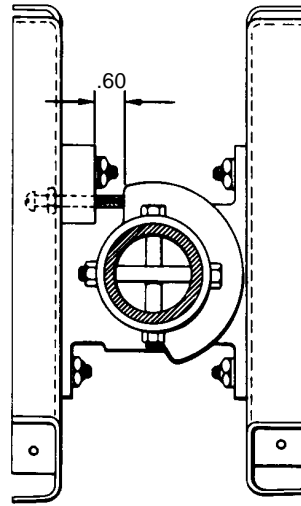
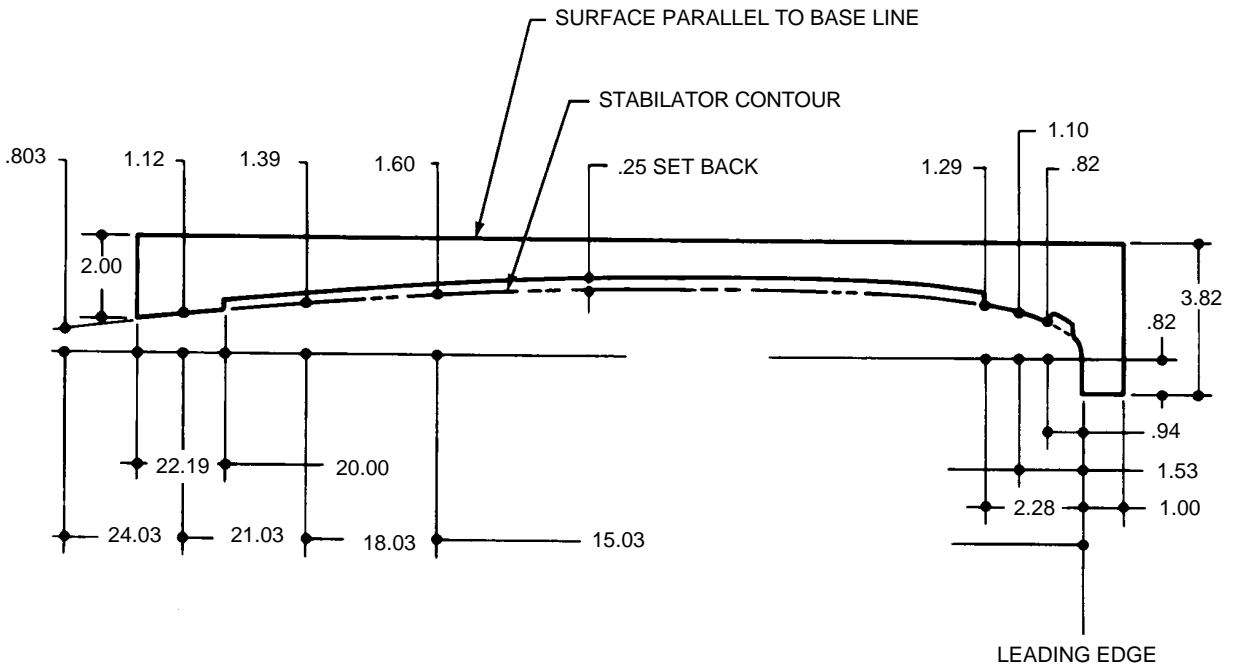

Figure 5-16. Flap Stop Adjustment
Figure 5-19 Fabricated Stabilator Rigging Tool
- f. To check up neutral position of the flaps, place a flap rigging tool as shown in Figure 5-16 against the underside of the wing and flap as close as possible to the outboard end of the flap without contacting any rivets. The tool must be positioned parallel with the wing ribs with the aft end of the tool even with the trailing edge of the flap. (This tool may be fabricated from dimensions given in Figure 5-19.)